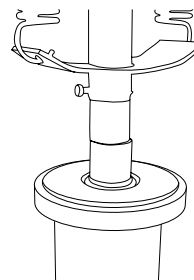

FIGURE 2
2. Use a press to push the bearing out ensuring the pipe underneath is larger than the bearing (see Figure 2).